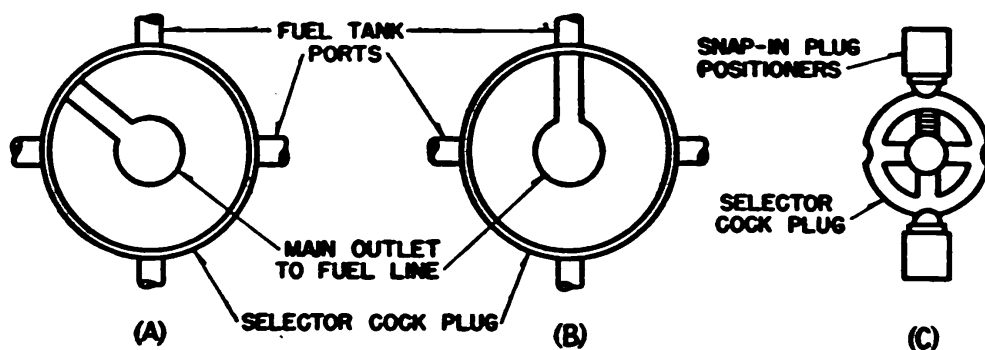

Figure 22.—Principle of operation of fuel-selector cock.
The simple diagrams in figure 22 will show you the principle on which fuel-selector cocks operate. When the dash lever is in the OFF position, the opening in the central plug is not registering with any fuel line. This position is
Backlash may develop in the selector-cock control linkage, and the fact that the lever on the cockpit control unit is set in the center of the correct dial sector, does not necessarily mean that the cock plug is in the correct position. Be sure that the cock "clicks" audibly when you move the lever to the desired position, as this removes guesswork from the operation. Spring-actuated position-finding lugs are provided in the cocks, and these snap into detent notches in the cock body in the various dial positions with a definite, audible click. See figure 22 (C).